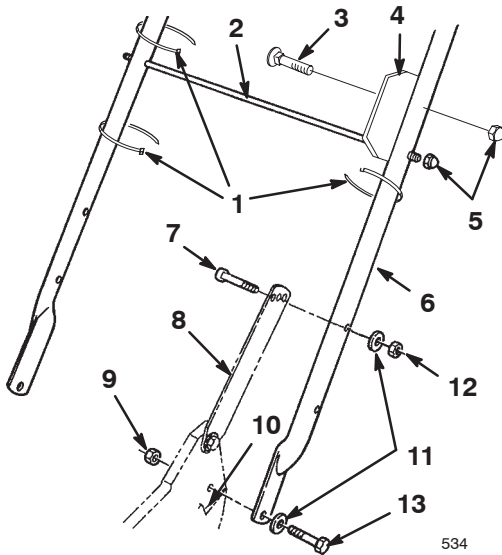

Figure 2
1. Mount the handle to the outside of the lawn mower housing (using the bottom hole) with two 5/16–18 x 1-1/4 in. bolts, washers, and thin nylon insert locknuts (Fig. 2).
2. Secure the handle latches to the handle with two 5/16–18 x 1-1/2 in. bolts, washers, and nylon insert locknuts (Fig. 2).
3. Slide the bag support rod through the bag aligning plate and into the second from the top mounting holes in the handle, and secure each end with a cap locknut (Fig. 2).
4. Insert the carriage bolt through the bag aligning plate and the top hole on the left side of the handle, and secure it with a cap locknut (Fig. 2).
6. Use cable ties to secure the brake cable to the handle (Fig. 2).